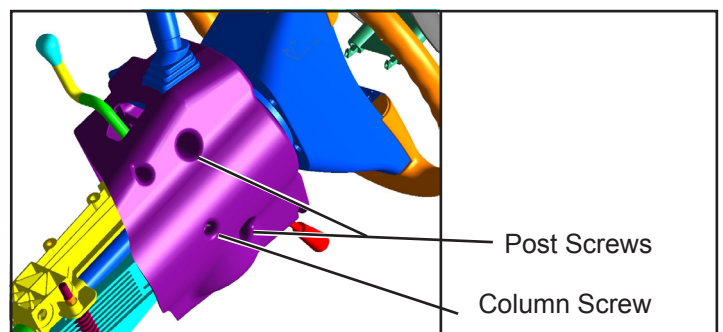

Figure 6 Removing the Column and Post Screws (bottom side)
8. As shown in Figure 6, remove the steering column covers by removing the two post screws and one column screw with a Torx® driver. Separate the bottom and top cover halves. A wiring harness is attached to the bottom cover half and will prevent the cover from being removed from the steering column area. Complete removal of this cover is not necessary or recommended to facilitate the installation of this kit.
10. Using the applicable (either Phillips or Torx®) screw driver, remove the three screws (2) that secure the clockspring (1) to the steering column assembly.